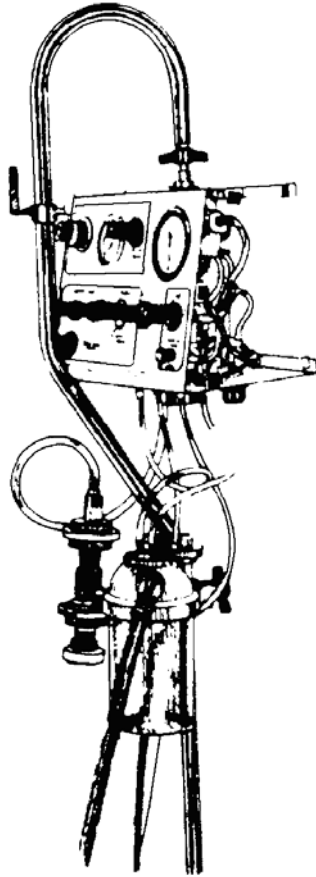

Figure 2-1. Ventilator mounted for calibration with back and side panel removed.
- (1) Turn off the source gas and install the calibration regulator (P/N 6754) between the gas source and the inlet assembly located atop the ventilator.
- (2) It will be necessary to attach the Babybird ventilator and breathing assembly to a power source in such a manner that the combination back and side cover can be removed and still retain access to the front control panel. This may be accomplished by either of the following.
- (b) Use a 5/32-inch Allen wrench to remove the post assembly (P/N 4293) from the bottom of the ventilator so the Babybird may be attached to the pedestal stand (P/N 050) in a reverse fashion. The bracket assembly (P/N 4262) supporting the breathing circuit can then be secured to the vertical portion of the pedestal (figure 2-1).
- (3) Use the Phillips-head screwdriver to remove the 12 screws securing the combination back and side panels. There are six screws securing the back and three on each side panel.
- (4) Remove the back and side panels, but position the unit so the Babybird circuit may be connected to the mechanical test lung.